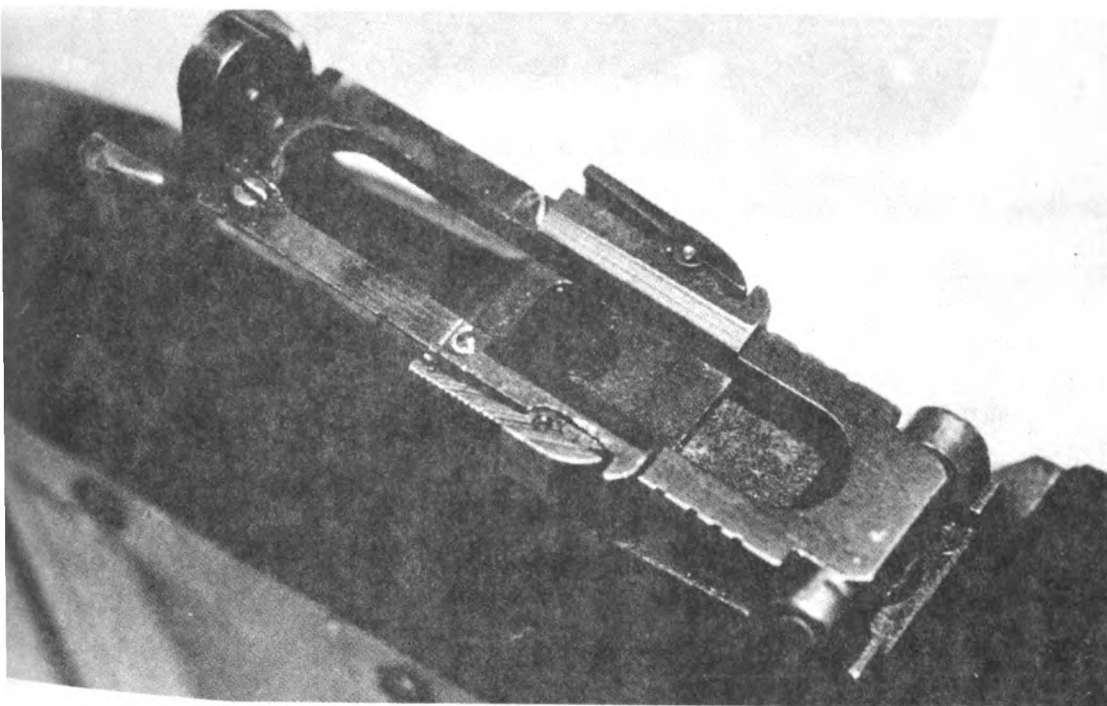

Figure 1
- (1) Adjust rear sight. (See fig. 1.)